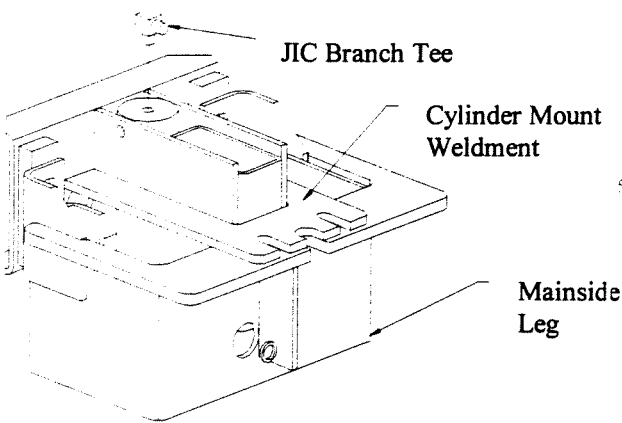

FIGURE 5
7. Remove the red port plugs from each cylinder. Attach a male pipe thread to male JIC 90 elbow to the nipple at the bottom end of both cylinders. The fitting should face toward the top of the cylinder. Attach a male pipe thread to male JIC branch tee to the top opening of the mainside leg cylinder. The branch tee should run perpendicular to the mounting bolt. Figure 5
8. Install the cylinders in the legs by attaching them to the Cylinder Mount Weldments with 1/2" x 5" Grade 8 bolt with nut. The fitting at the bottom of the cylinder should be positioned to the left, as you look into the leg. See Figures 5 & 6 for placement of cylinders in the top of the legs.